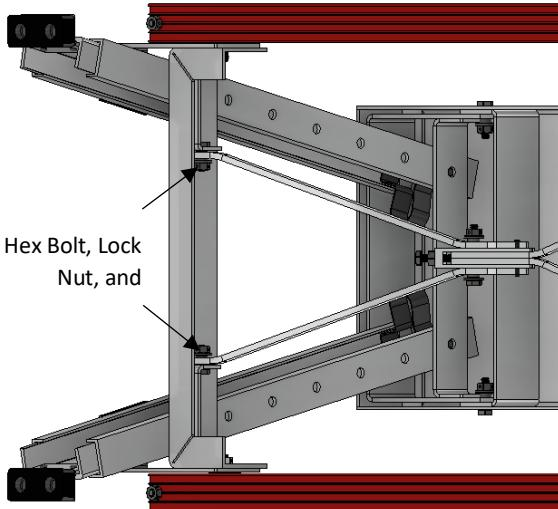

Figure 3
5. Unthread the two 1/4"-20 center lock nuts and remove the two 1/4"-20 x 3/4" hex bolts and bushings from the mounting bracket on the Permanent Leg Assembly (EDI: 40125) as indicated in Figure 3.
8. Using the two remaining new bushings, place a bushing through each of the mounting holes on the short lower strut of the Locking Brace Assembly and align the mounting holes of the short lower strut with the holes on the mounting brackets of the Permanent Leg Assembly as indicated in Figure 3.
9. Using a new 1/4"-20 x 3/4" hex bolt, insert the new hex bolt through one of the holes on one of the mounting brackets on the Permanent Leg Assembly and through the bushing in the mounting hole on the short lower strut as indicated in Figure 3.